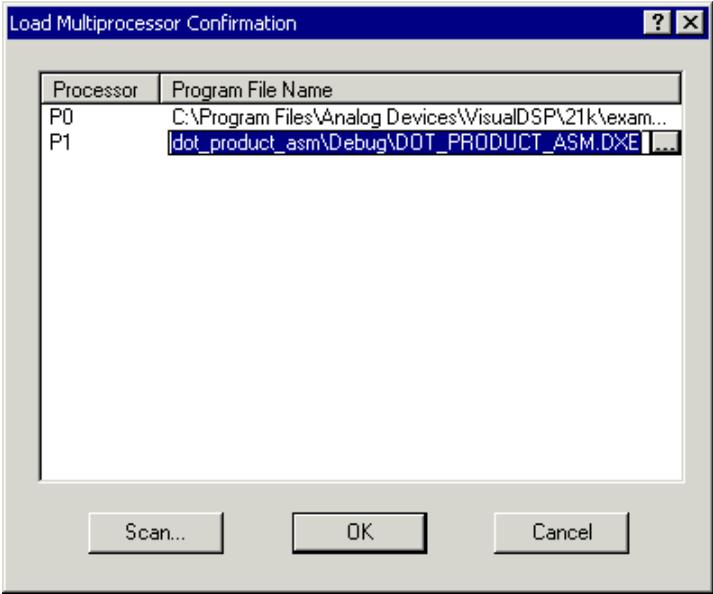

Figure 3-46. Load Multiprocessor Confirmation Dialog Box: Specifying Load dot_product_asm.dxe into Processor P1
- c. Double-click `dot_product_asm.dxe` to place the path to this program into the P1 row of the **Load Multiprocessor Confirmation** dialog box (see Figure 3-46).